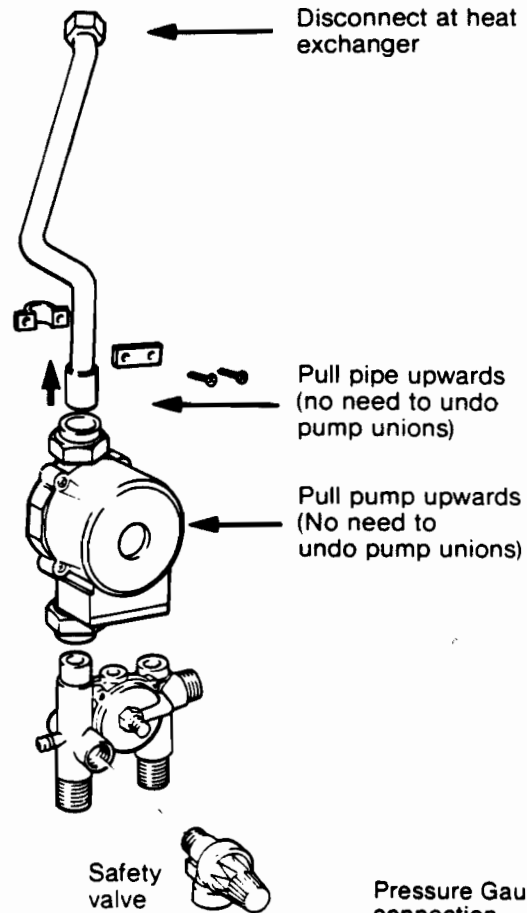

Fig. 38
8.12 To remove pump (figs 38 & 39)